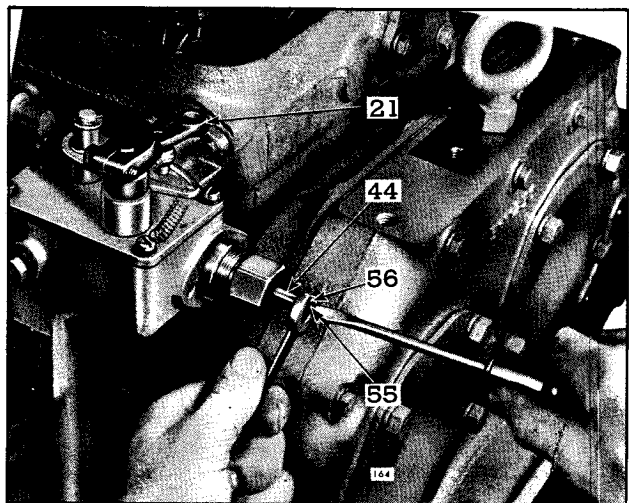

Fig. 4 - Adjusting Engine Idle Speed
2. If required, loosen idle speed adjusting screw lock nut (56), Fig. 4, and turn idle speed adjusting screw (55) to obtain the recommended idle speed.
1. With engine at normal operating temperature, refer to Fig. 4 and loosen lock nut (56) on idle screw (55). Turn the idle screw until engine is operating at approximately 15 r.p.m. below the recommended idle speed.